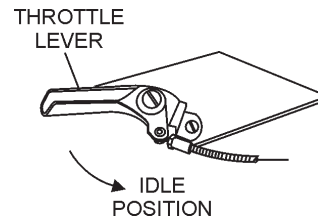

Figure 9. Throttle Lever (Idle Position)
2. Place the trowel's ***throttle lever*** (Figure 9) to the "**IDLE**" position.